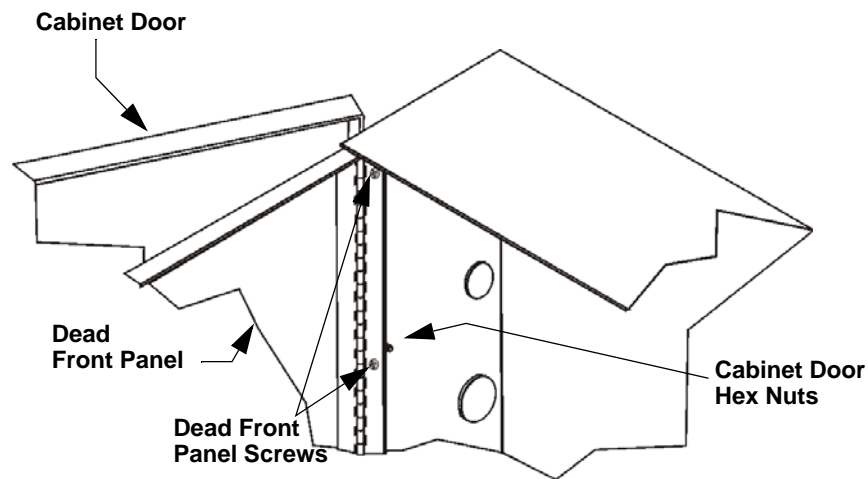

Figure 4-4 Cabinet Door and Dead Front Panel Removal
3. Using a Phillips head screw driver, remove the six screws that hold the dead front panel in place. See Figure 4-4.
4. Using a 1/4" Hex drive, remove the six Hex nuts that hold the cabinet door in place. See Figure 4-4.